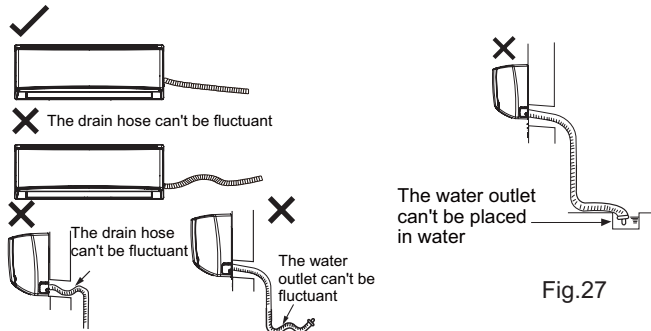

Fig.26
- (2) Slant the drain hose slightly downwards. The drain hose can't be curved, raised and fluctuant, etc. (As show in Fig.26)